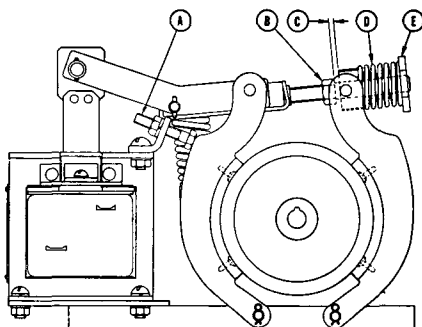

Fig. 1
INSTRUCTIONS (See Figure 1)
1. Mounting — Clamp the brake on the wheel by compressing the torque spring "D" (See Fig. 1) by tightening the adjusting nut "E". Insert shims between the mounting stand and the base of the brake until the brake is setting solid on the base. Note — These brakes **should** be mounted in a **horizontal position** with the base below the solenoid and shoes. Side or vertical mounting can result in accelerated wear of the solenoid.
2. Adjustment — a. Compress the torque spring "D" until the desired torque is obtained. The approximate compressed length of this spring, to obtain rated torque, is given in the table below and on a small plate mounted on the pivot block, item 12. It is an approximate dimension and further adjustment may be necessary.